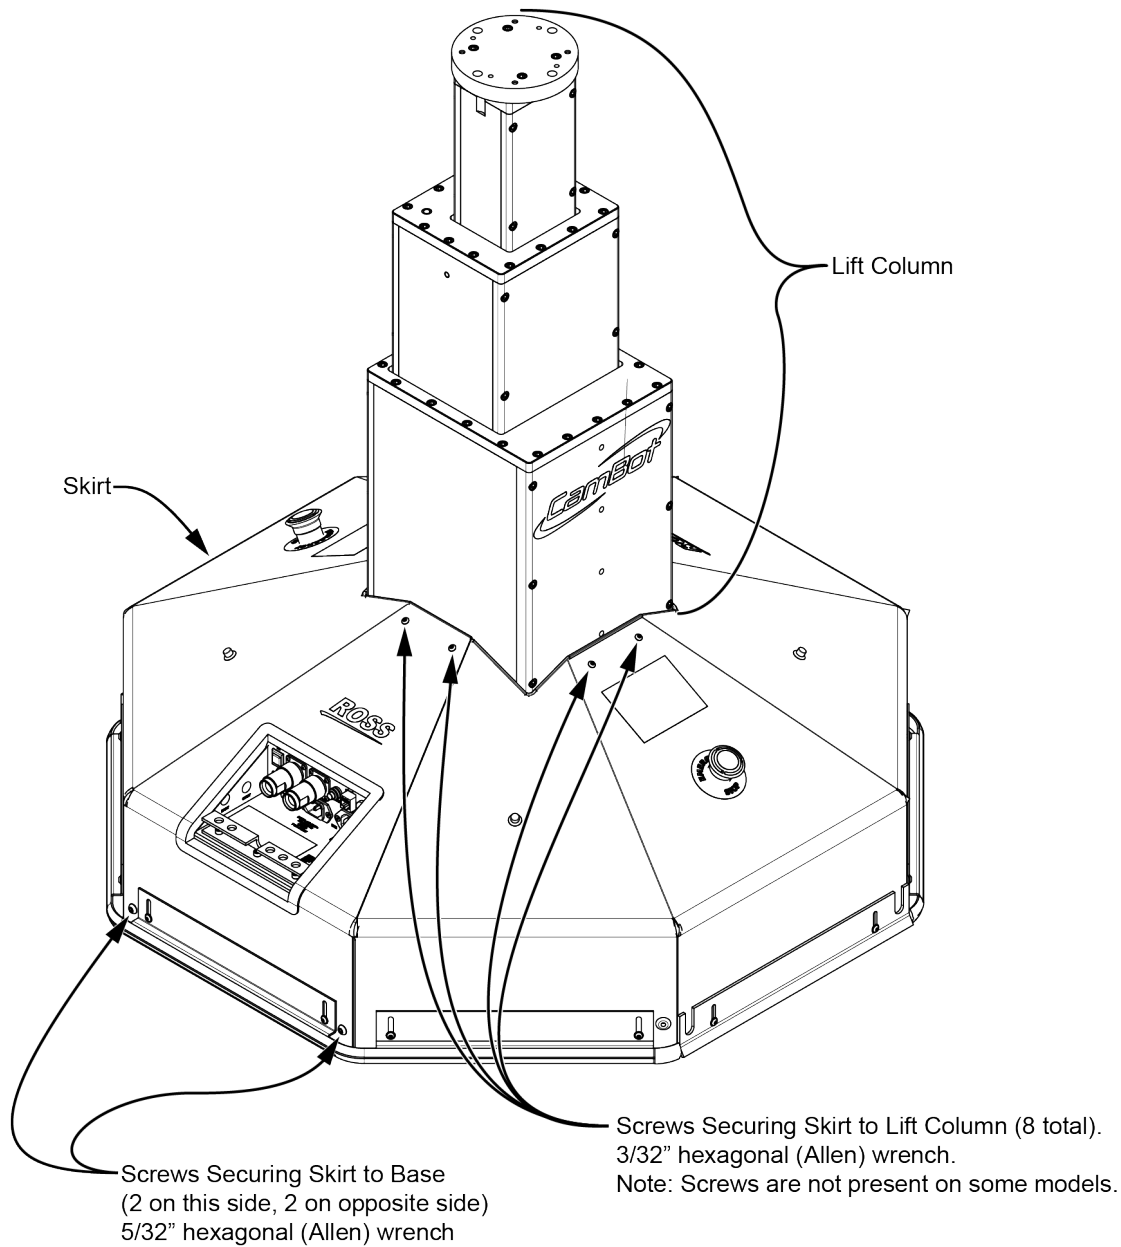

Figure 9 - CamBot 700XY Pedestal, showing Screws that Secure the skirt
- 1. Along the top edge of the skirt, use a 3/32" hex key to remove the four screws (or eight, depending on the CamBot model) that secure the skirt to the lift column (if present). Refer to **Figure 9**.
2. At the bottom of the skirt, use a 5/32" hex key to remove the four screws that secure the skirt to the pedestal base plate (see **Figure 9**).
3. Place the skirt back in place over the base of the pedestal and lower it to rest on the support pieces underneath, as shown in **Figure 9**.
4. At the bottom of the skirt, use a 5/32" hex key to tighten the four (or eight) screws that secure the skirt to the pedestal base plate (refer to **Figure 9**).
5. Along the top edge of the skirt, use a 3/32" hex key to tighten the four screws (or eight, depending on the CamBot model) that secure the skirt to the lift column (if present). Refer to **Figure 9**.